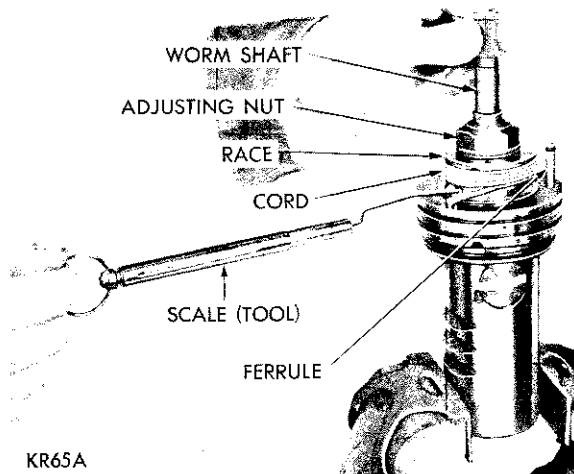

Fig. 18—Adjusting Center Bearing Pace Preload
(47) Loosen the adjusting nut. Place several rounds of cord around the center bearing race (Fig. 18). Make a loop in one end of the cord and hook the loop of a distributor breaker arm spring scale Tool MTU-36 in the cord loop. Pulling the cord will cause the bearing race to rotate. Retighten the worm bearing adjusting nut while pulling on the cord with the scale. If the adjusting nut is tightened properly, reading on the scale should be 16 to 24 ounces (20 ounces preferred) while the bearing race is turning.